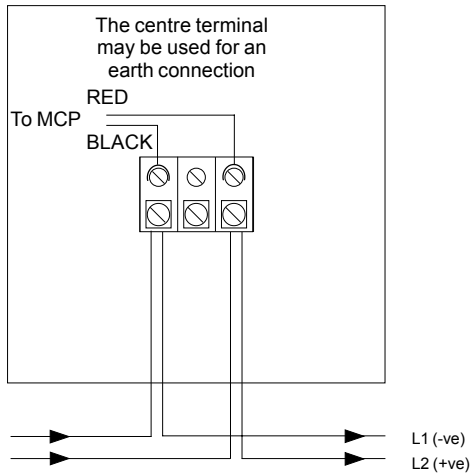

Fig 1 Flush Mount Connection Diagram
2. Run the cables from the Discovery loop into the box and connect to the terminal tray as shown in Fig 1. Ensure that earth continuity is maintained.
6. Undo the small front cover retaining screw and remove the call point front cover. Remove the 'NOT IN USE' insert. Connect all cables as shown in Fig. 1, secure the call point to the terminal tray and fit either the 'NOT IN USE' insert or the glass as required. Finally, replace the front cover.